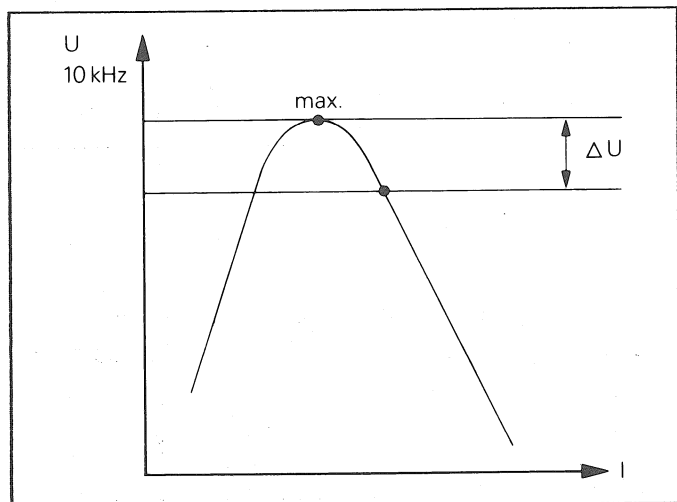

Fig. 12
- Carefully turn the potentiometer further clockwise until the voltage difference ( $\Delta U$ ) according to Fig. 12 is attained.
- Switch the recorder to STOP and connect the ground lead of the oscilloscope to test point 39 on the extender board, and the probe to pin 5 IC103 (CH1) or pin 5 IC203 (CH2) on the PREAMPLIFIER BOARD (Fig. 12).
- With L102 (CH1) or L202 (CH2) adjust to minimal RF on the oscilloscope (Fig. 12).